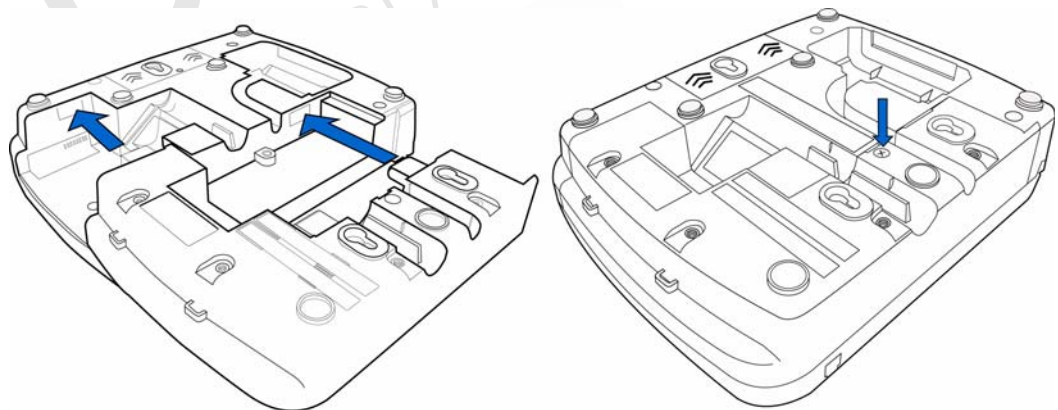

Figure 8 Installing the Smart Card Module
- 2 Slide the smart card module into place (Figure 8) and secure the retaining screw.